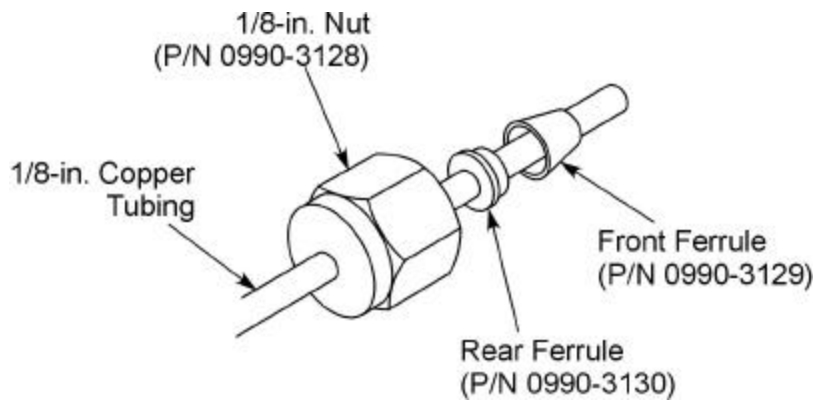

Figure 2-10 Components of a 1/8-in. tubing connection.
5. Place a 1/8-in. nut, a 1/8-in. rear ferrule, and a 1/8-in. front ferrule over each end of the copper tubing as shown in Figure 2-10.
2. Insert a 1/8-in. nut, a 1/8-in. rear ferrule, and a 1/8-in. front ferrule over the end of each piece of copper tubing as shown in Figure 2-10.